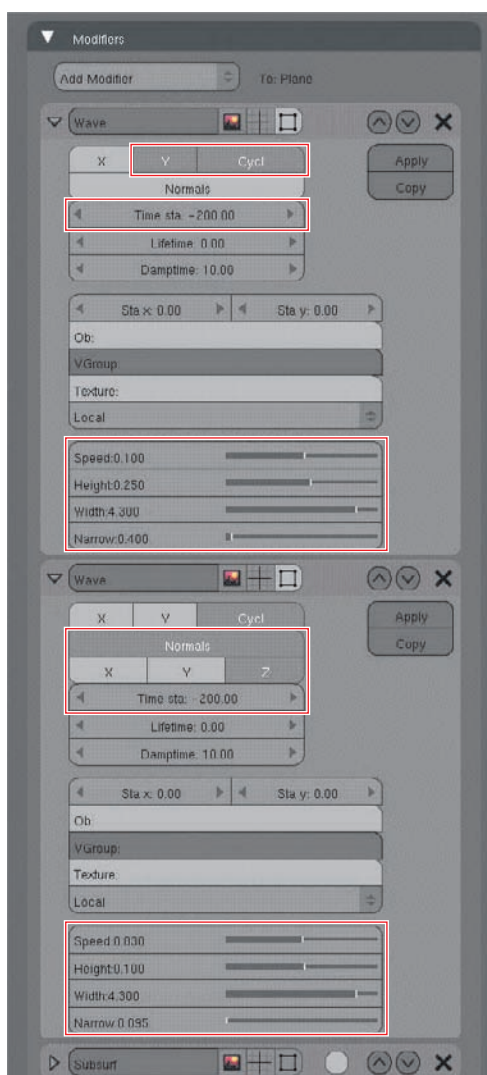

Figure 1.33
3. With the plane selected, add two Wave modifiers, with the settings shown in Figure 1.33. The first wave will move along the Y axis, from one edge of the plane to the other. The other wave will move along the Z normal of the plane, creating a swelling effect. Using the two Wave modifiers together will help make the motion less obviously regular. Note that each modifier can be set to display in render, 3D, and edit mode view. For now set the modifiers to display in render and 3D views. Throughout the tutorial, I've switched the 3D view display on and off. Also, add a Subsurf modifier with the settings of Levels: 2, Render Levels: 3. Make sure that the Subsurf modifier is at the bottom of the modifier stack. The Wave modifiers should be acting on the subsurfaced mesh, not the other way around. I've set the start time for the waves at -200, so that the waves will be in full effect by frame 1.